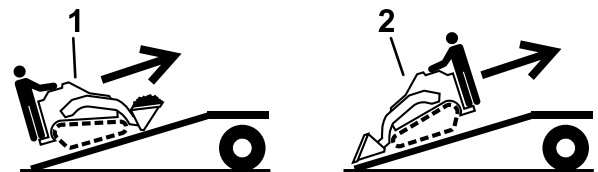

Figure 26
5. Load the machine onto the trailer with the heavy end up the ramp, carrying loads low (Figure 26).